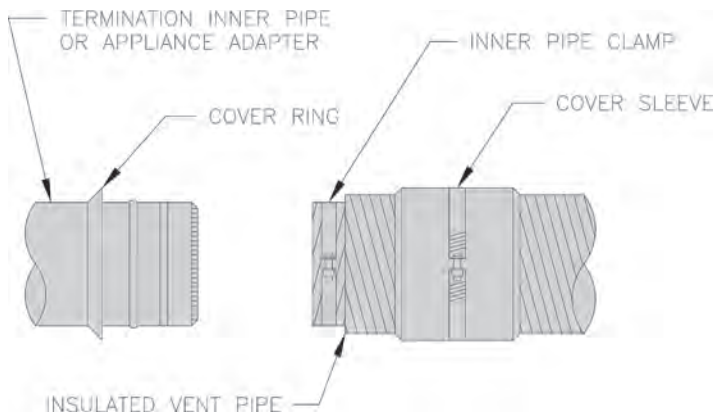

Figure 19: Vent Pipe Assembly to Vent Termination Inner Pipe and Appliance Adapter
3. Pull outer vent pipe back 1" to 2" from end of inner vent pipe and remove insulation; firstly, at vent pipe side to be connected to the vent termination; secondly, at vent pipe side to be connected to the appliance adapter. See Figure 19.
4. Install supplied Cover Sleeve Assembly onto each end of outer vent pipe, and, move the assembly a few inches back from the end; firstly, at vent pipe side to be connected to the vent termination; secondly, at vent pipe side to be connected to the appliance (boiler outlet collar) adapter. See Figure 19.
5. Slide supplied Cover Rings; firstly, over stop bead on vent termination inner pipe; secondly, over stop bead on appliance adapter. See Figure 19.